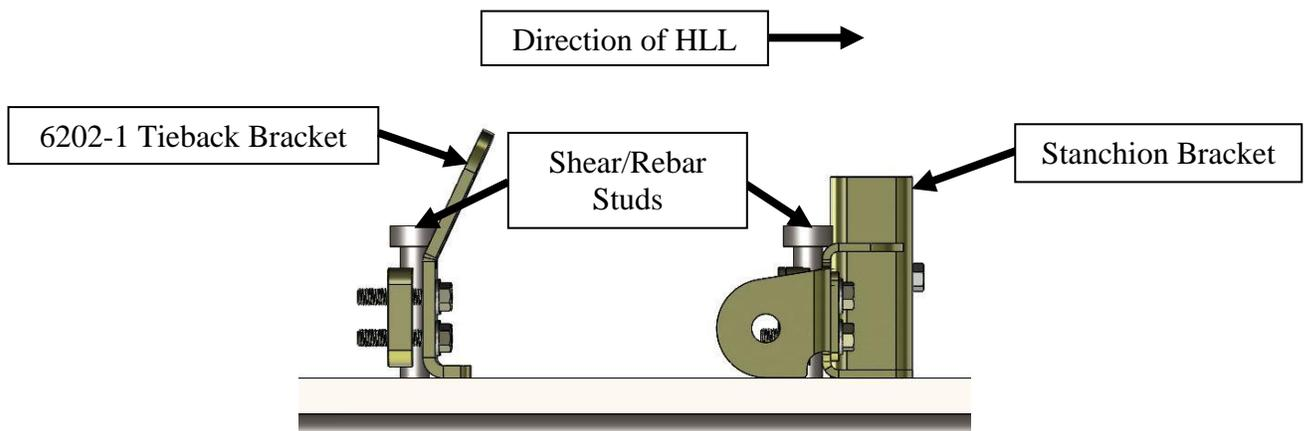

Fig. 8 Position of Brackets Relative to Shear/Rebar Studs
16. Position the eye end of the wire rope so that it is about 7-ft. (see Figure 8) away from the location of one of the anchor lugs on an End Stanchion.
2. The Tie-Back Brackets should be attached to outermost shear/rebar studs that are located at the end of the beam where the lifeline is to be installed. Loosen the 4 bolts that secure the bracket’s grip plate, on both of the tie-back brackets and slide the tie-back bracket’s down the shear/rebar stud to rest against the top of the beam. Make sure that the formed tabs where the tieback cables will attach are pointed towards the far end of the beam where the other end of the lifeline cable will be installed (see Fig. 8). Verify that the bracket is resting firmly against the top surface of the beam; there should be no gap present below the bottom edge of the bracket. Tighten the grip plate bolts fully to firmly press the bracket against the shear studs. Torque the bolts to between 70- and 80-ft-lb. The tieback bracket’s is now installed.